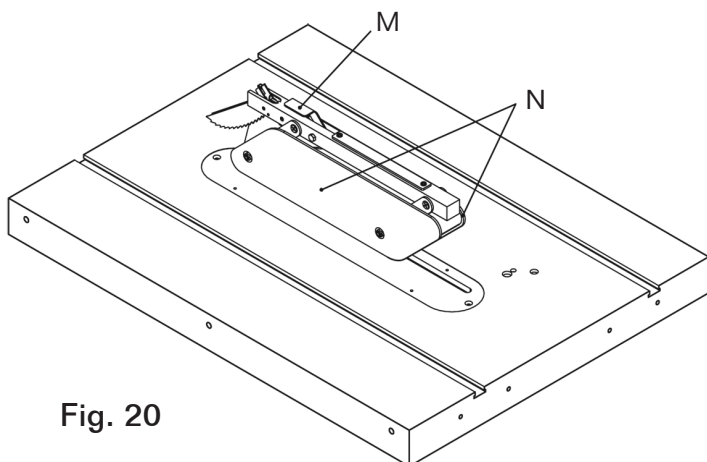
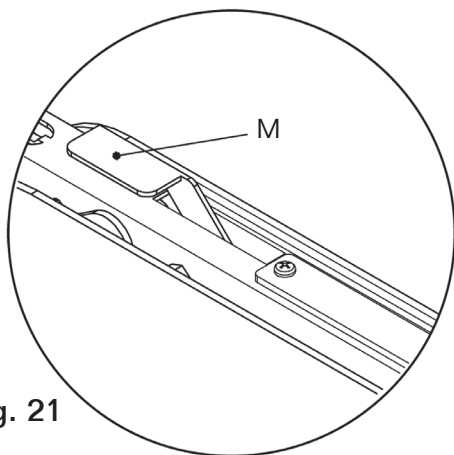

Fig. 20
Fig. 21
4. Put down the guards(N) as Fig.20 and lock the handle(M), then fix the handle(M) as Fig.21.